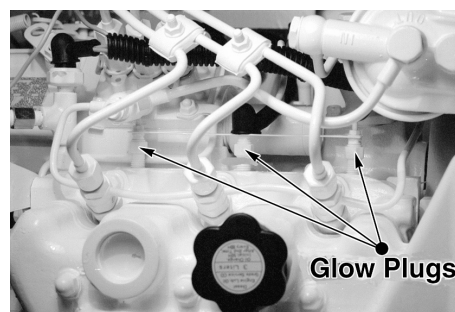

Figure 21: Glow plugs
2. To check the glow plugs, loosen the current carrying flat wire between the plus-poles of the glow plugs (Figure 21). Connect a D.C. test bulb between the plus-pole of the battery and the plus-pole of the glow plug. If the bulb lights up, the glow plug is functioning properly.